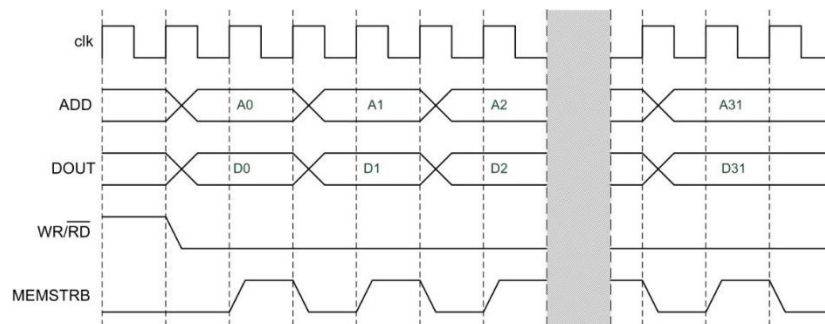

Figure 8: SDRAM Block Read
The SDRAM Controller responds to block read and write requests from the Cache Controller. To write a word to main memory, the correct base address is set on the **ADD** port by the Cache Controller, and the **WR/RD** signal is asserted (set to 1) to indicate a write operation. Finally, once all other signals are stable (one clock cycle later), the strobe **MEMSTRB** is asserted for one clock cycle. To write a full block to memory, this process is repeated 32 times, with the address and data changing accordingly. To read a full block from memory, the same process is used, with the exception that **WR/RD** is held low (0), and no data needs to be placed on the **DIN** port; rather, the data will appear on the **DOUT** port. Figures 8 and 9 below show read and write processes for a full block of data.